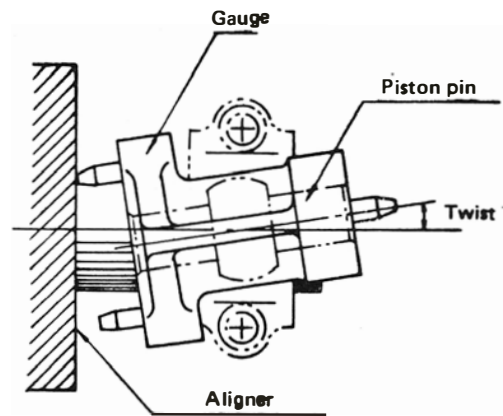

Figure 20
1. Measure the connecting rod for twist, warp or other signs of damage, Figure 20.